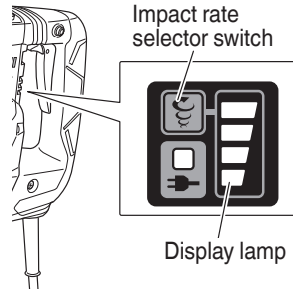

Fig. 9
11. Regulating the number of hammering (Fig. 9)